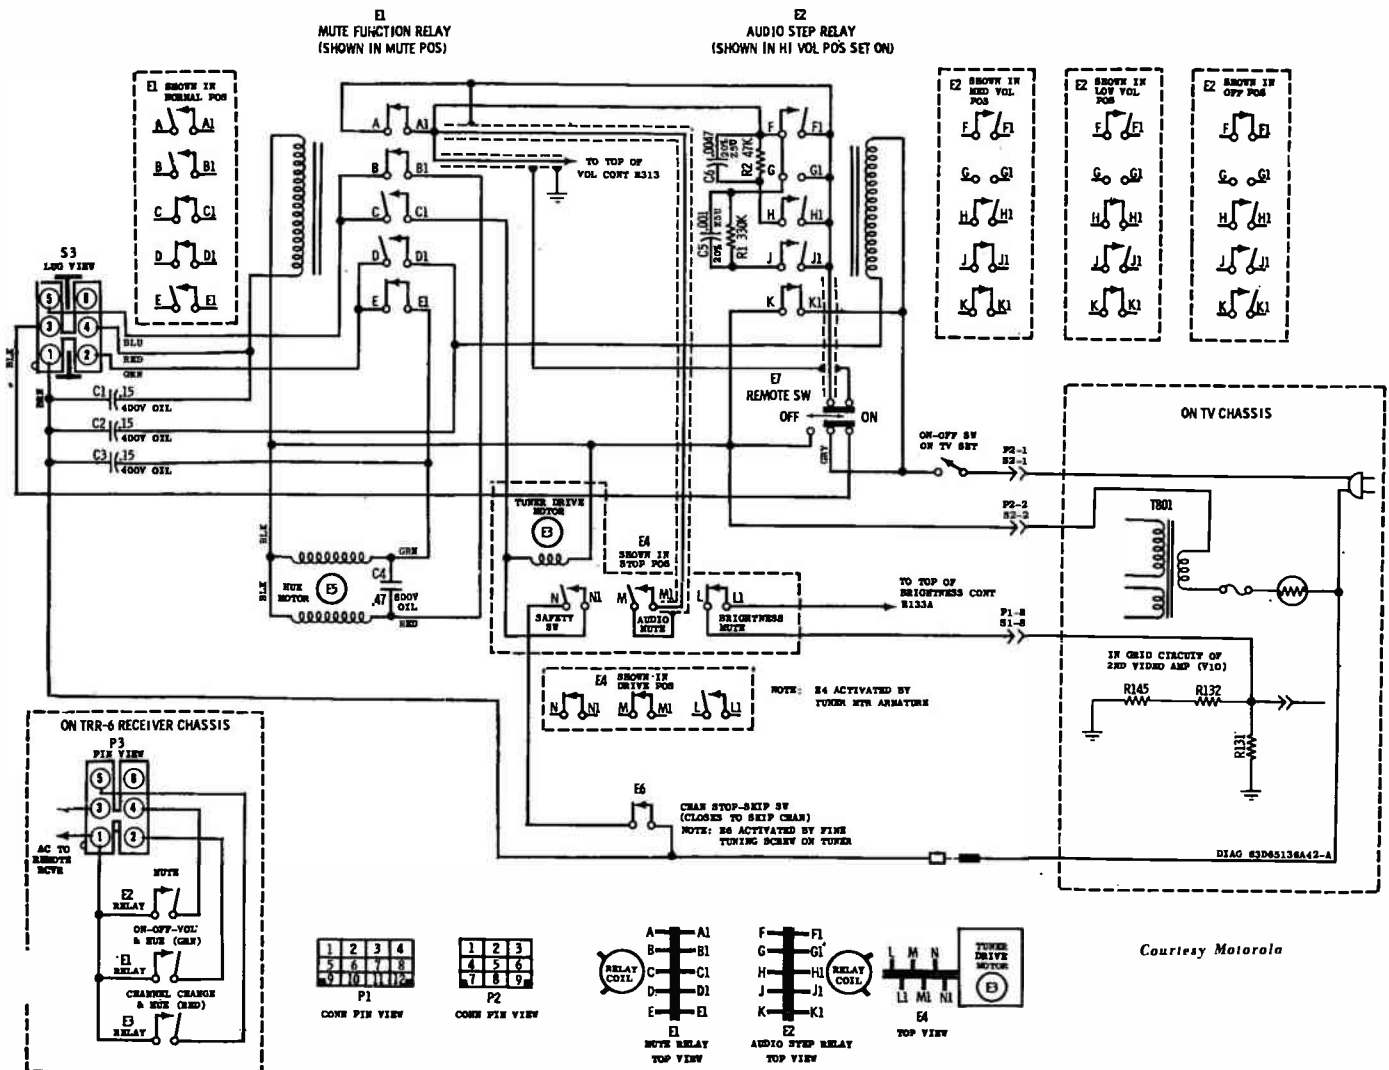

Fig. 54. Remote-control unit wiring diagram.
The receiver shown in Fig. 53 is connected to the control unit shown in Fig. 54. The connector S₃ shown in Fig. 54 is joined to the connector P₃ shown in Fig. 53. The connector on the receiver chassis and the various relay circuits are shown on the lower left of the remote-control unit wiring diagram so that you can trace out the various functions without having to refer back to Fig. 53.
The first step in operating a receiver remotely is to turn it on. When you do this you press the button on the right of the transmitter-control unit and this energizes relay E₁. When the relay E₁ closes it steps one position so that we have in effect a switch that is moved one position. The various contacts are labelled E₂ Audio Step Relay in Fig. 54. The switch is shown in the high volume position with the set turned on.
will take ac from the power line and apply it to terminal 5 of the receiver chassis connector. The power is applied from terminal 5 on S₃ in Fig. 54 over to the mute function relay. This relay is shown in the mute position - in order for the tuner to operate the switch must be in the opposite position. When this happens we'll have the circuit from terminal 5 on S₃ over to terminal C. The relay will be closed between C and C₁ so the power line will be applied through C₁ to the tuner drive motor. The circuit is then traced through the motor to terminal K on the audio-step relay, through the relay to K₁, and through the on/off switch in the receiver, which must be in the "on" position at all times in order for the remote control unit to work, and back to the other side of the power line.
- (at) How many positions does the volume control relay in Fig. 54 have?